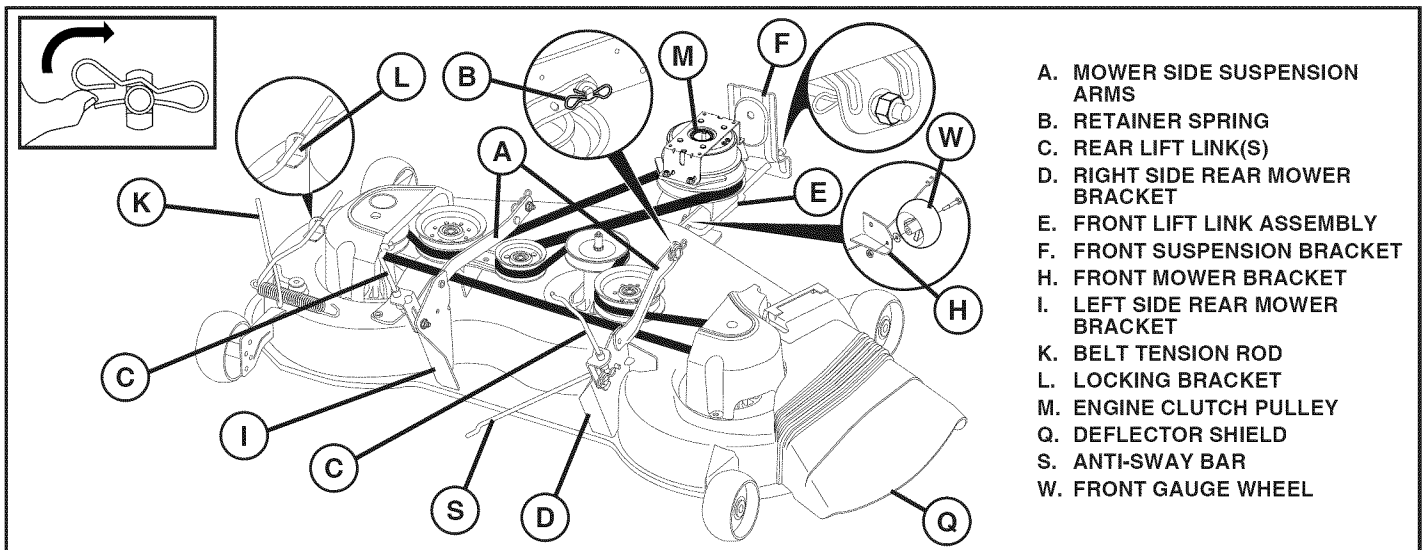

Fig. 27
TO REMOVE MOWER (See Fig. 27)
TO INSTALL MOWER (See Figs. 27 - 39)
9. INSTALL BELT ON ENGINE CLUTCH PULLEY (M) (See Fig. 27 & 39)
- Disengage belt tension rod (K) from locking bracket (L).
- Install belt onto engine clutch pulley (M).